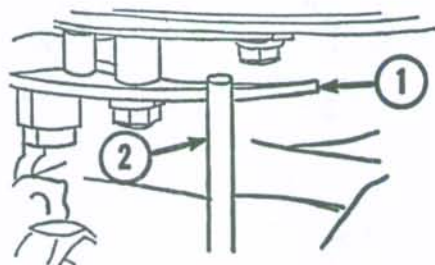

Fig. M1-3—Schematic view of speed control linkage. Refer to text for details of adjustment.
SPEED CONTROL LINKAGE. The speed control moves the magneto stator plate to advance or retard ignition timing. The carburetor throttle valve is synchronized to open as the timing is advanced. Before attempting to synchronize throttle opening to ignition advance, the idle fuel mixture must be correctly set and idle speed should be approximately 500 rpm. Run motor until it reaches operating temperature, engage forward gear, then move speed control handle until engine is operating approximately 1000 rpm. NOTE: On Mark 5, speed control handle will be about center of motor. With controls set as outlined, the control cam (1—Fig. M1-3) attached to magneto stator plate should just contact the throttle follower lever (2). Adjust by loosening the cam attaching screws and move cam on stator plate until it just contacts follower lever (2).